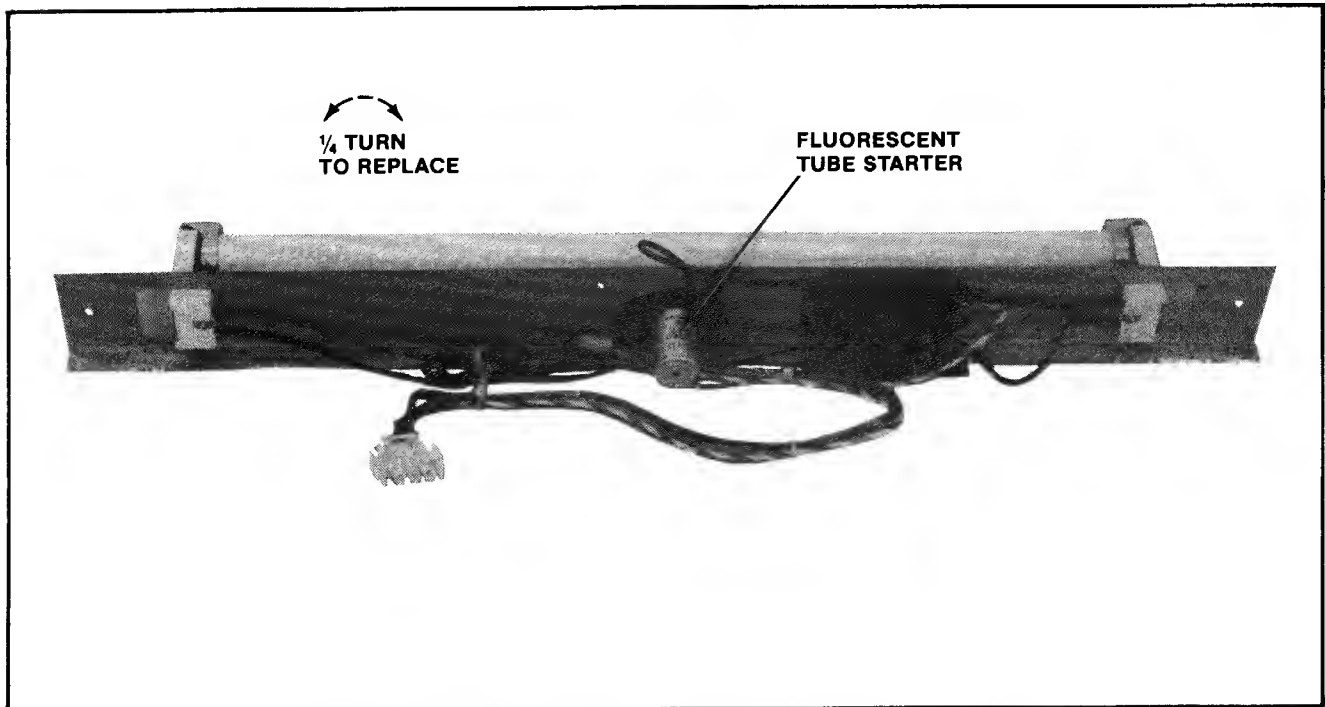

Figure 4-17 Replacing the Fluorescent Tube Starter — Upright
**WARNING:** If you drop a fluorescent tube and it breaks, IT WILL IMplode! Shattered glass can fly six (6) feet or more from the implosion. Use care when replacing any fluorescent tube.
- ☐ Replacing the fluorescent tube starter. See Figure 4-17.